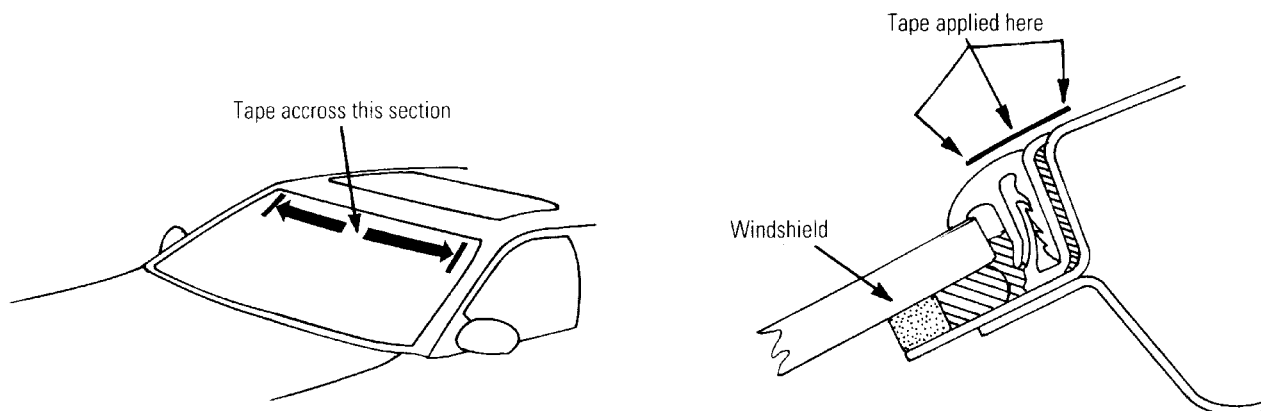

Figure 2
1. Verify windshield top seal area noise by taping over the top windshield molding (Figure 2). Tape across the top section, corner to corner, using black electrical tape, duct tape or equivalent.